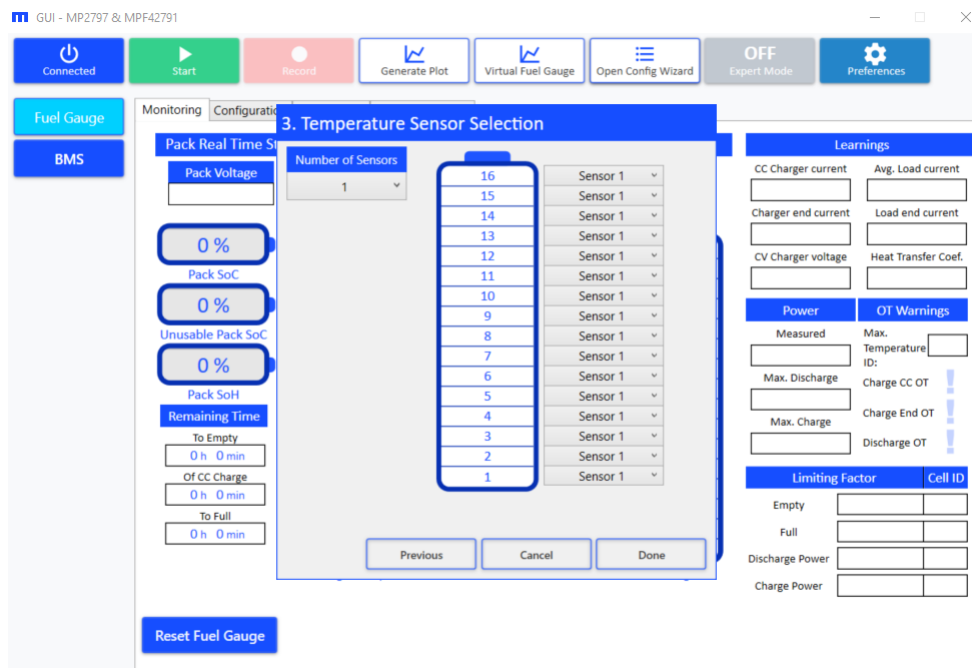

Figure 36: Configuration Wizard 4 – Temperature Sensor Selection
- a. Nominal charge constant voltage: Set this value to the nominal voltage applied to the battery pack by the external charger during constant voltage (CV) charge.
- b. Nominal charge constant current: Set this value to the nominal current applied to the battery pack by the external charger during constant current (CC) charge.
13. The Temperature Sensor Selection window should automatically open. Set the number of temperature sensors used by the fuel gauge. In addition, set a selector for each cell, which selects which temperature sensor is associated with which cell (see Figure 36).